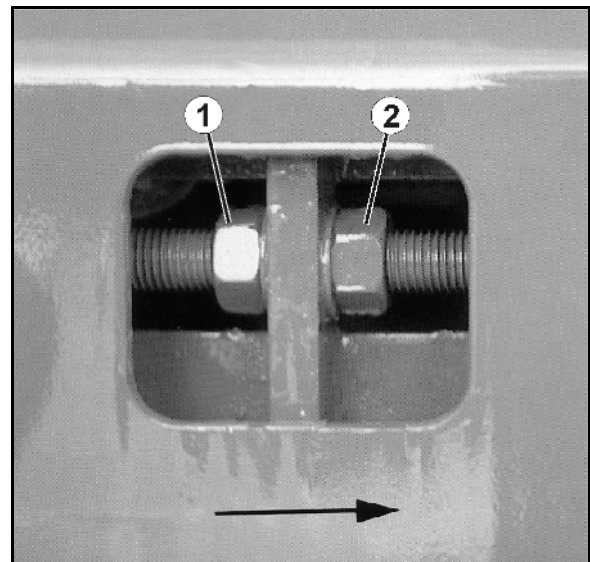

Fig. 72
3. Check the butterfly valve (Fig. 72/1) for ease of movement and adjust the adjustment rings if necessary.